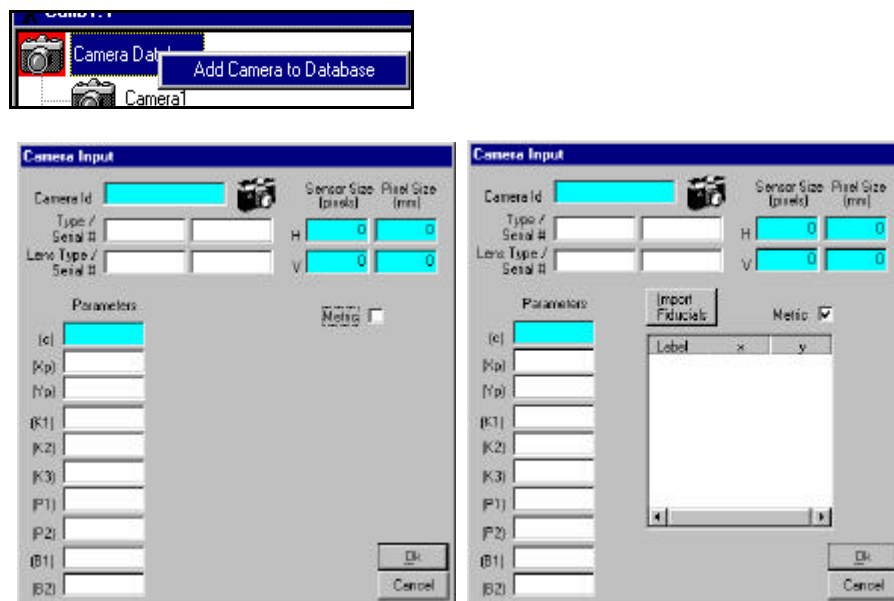

Figure 2.1: Adding a digital camera to the application database (left). Camera input dialog with fiducial import and editing (right).
To add a camera to the database, right click on the Camera Database icon in the project tree view, and select *Add Camera to Database* from the popup menu (Fig. 2.1). This displays the *Camera Input* dialog. The fields shaded in light blue (on the monitor) indicate the minimum amount of information about the camera that must be input. This includes the horizontal and vertical sensor size (in pixels), the horizontal and vertical pixel size (in millimetres), and the focal length (in millimetres). Enter the required minimal information (plus any other known values) and click  to save the camera to the database and close the dialog.
*Australis* supports the capability to re-establish the interior orientation of scanned metric images with fiducial and reseau points (Chapter 8). For a metric camera, check  in the *Camera Input* dialog to display the **Import Fiducials** button and listbox (Fig. 2.1).